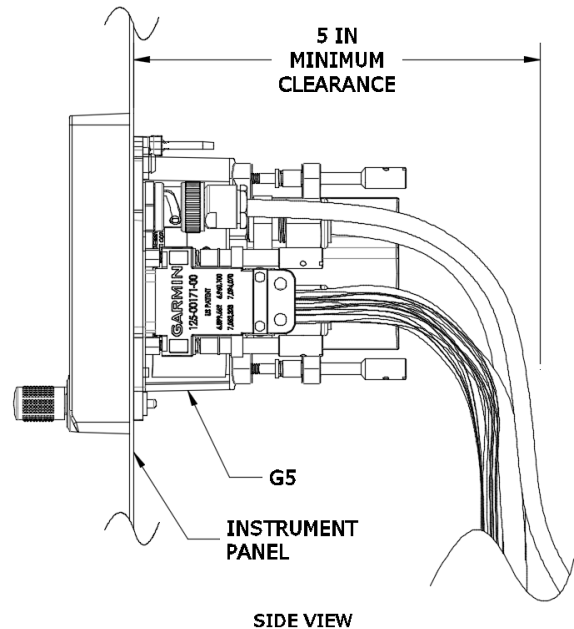

Figure 4-14, Clearance for Connections
- 7) The location of the hole must allow for sufficient clearance for the G5 electrical and pneumatic connections, see **Figure 4-14**.
- 2) The proposed location must allow for sufficient clearance for the G5 unit and connections as shown in Figure 4-14.